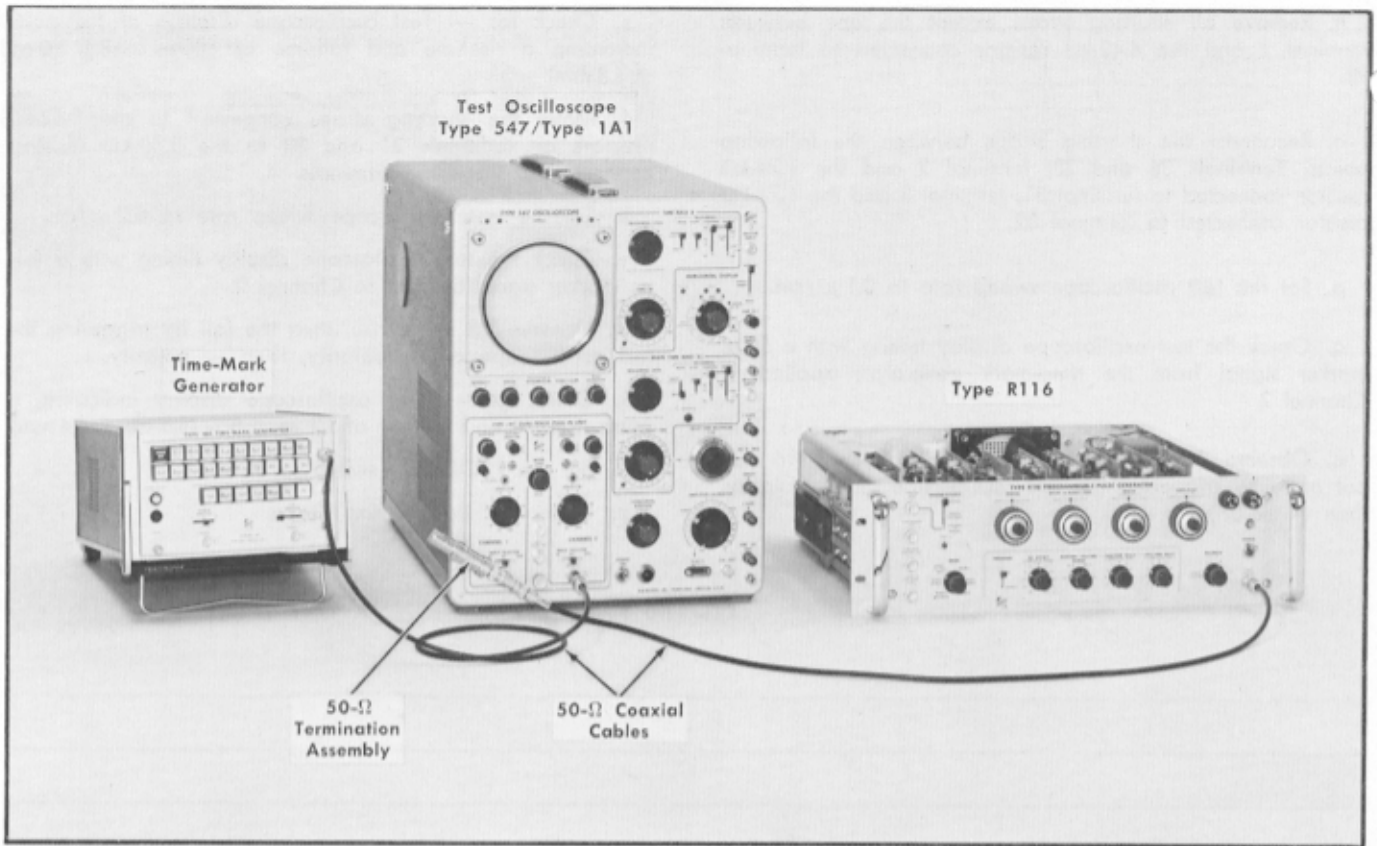

Fig. 7-27. Initial test equipment setup for calibration steps 26 through 28.
- a. Test equipment setup is shown in Fig. 7-27.
l. If R41 is adjusted, reset the WIDTH MULTIPLIER control and the test oscilloscope sweep rate as given under Fig. 7-27 and recheck the width timing as in steps b through f.